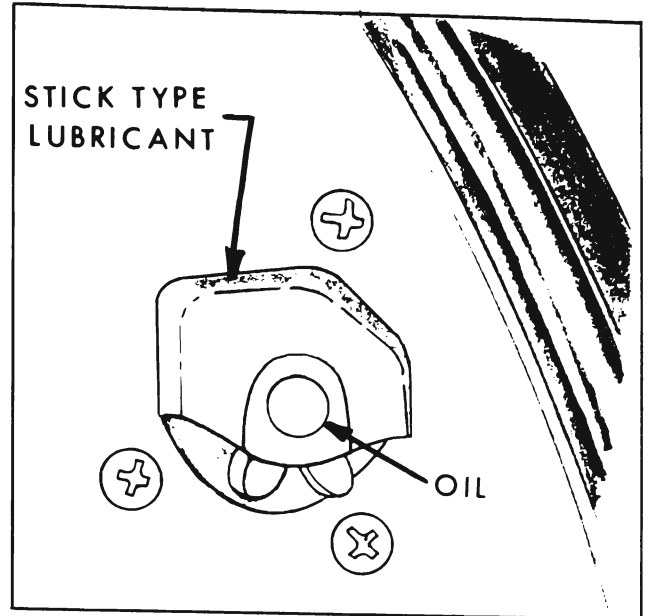
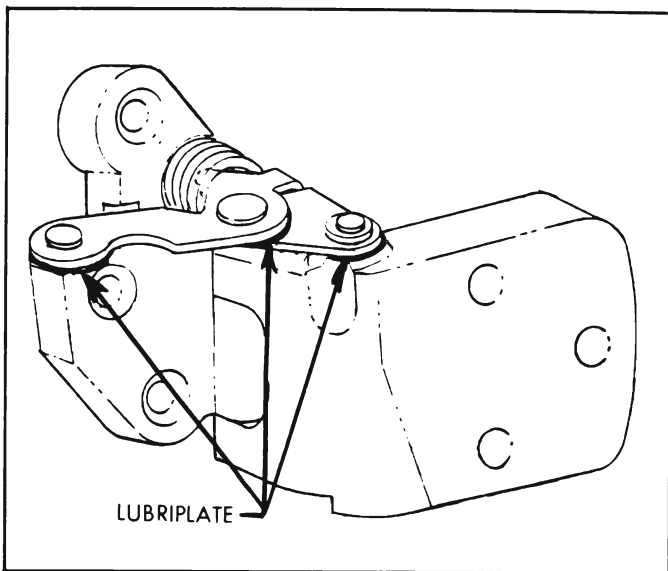

Figure 1-16—Lubrication of Door Lock Bolt and Housing
Figure 1-15—Lubrication of Rear Door Hinge and Hole-Open
8. Rear Door Hinge and Hold-Open. Wipe off dirt and apply Lubriplate at points indicated by arrows in Figure 1-15. Wipe off excess.
9. Door Lock Bolt. Wipe off dirt and apply a thin coat of stick-type lubricant on top surface of lock bolt housing indicated in Figure 1-15. Oil rotary bolt shaft with engine oil. Wipe off excess. See Figure 1-16.